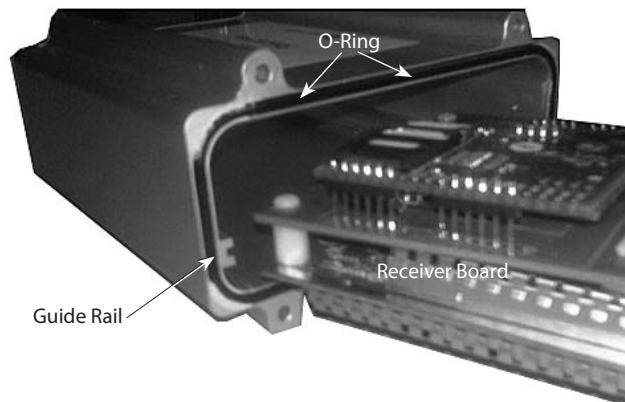

Figure 13: Guide Rails and O-Ring
9. Replace the cover by aligning the receiver board with the guide rails inside the enclosure. Verify proper o-ring seating before tightening the screws (Figure 13).